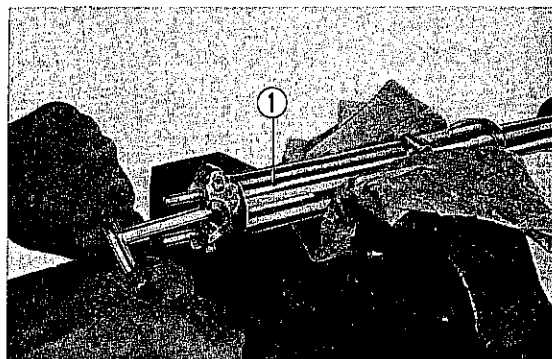

Fig. 252 ① Fork pipe
6. Loosen the 8mm bottom case bolt using a hollow set wrench (Tool No. 07917-3230000) and remove the damper unit from the bottom case. (Fig. 252)